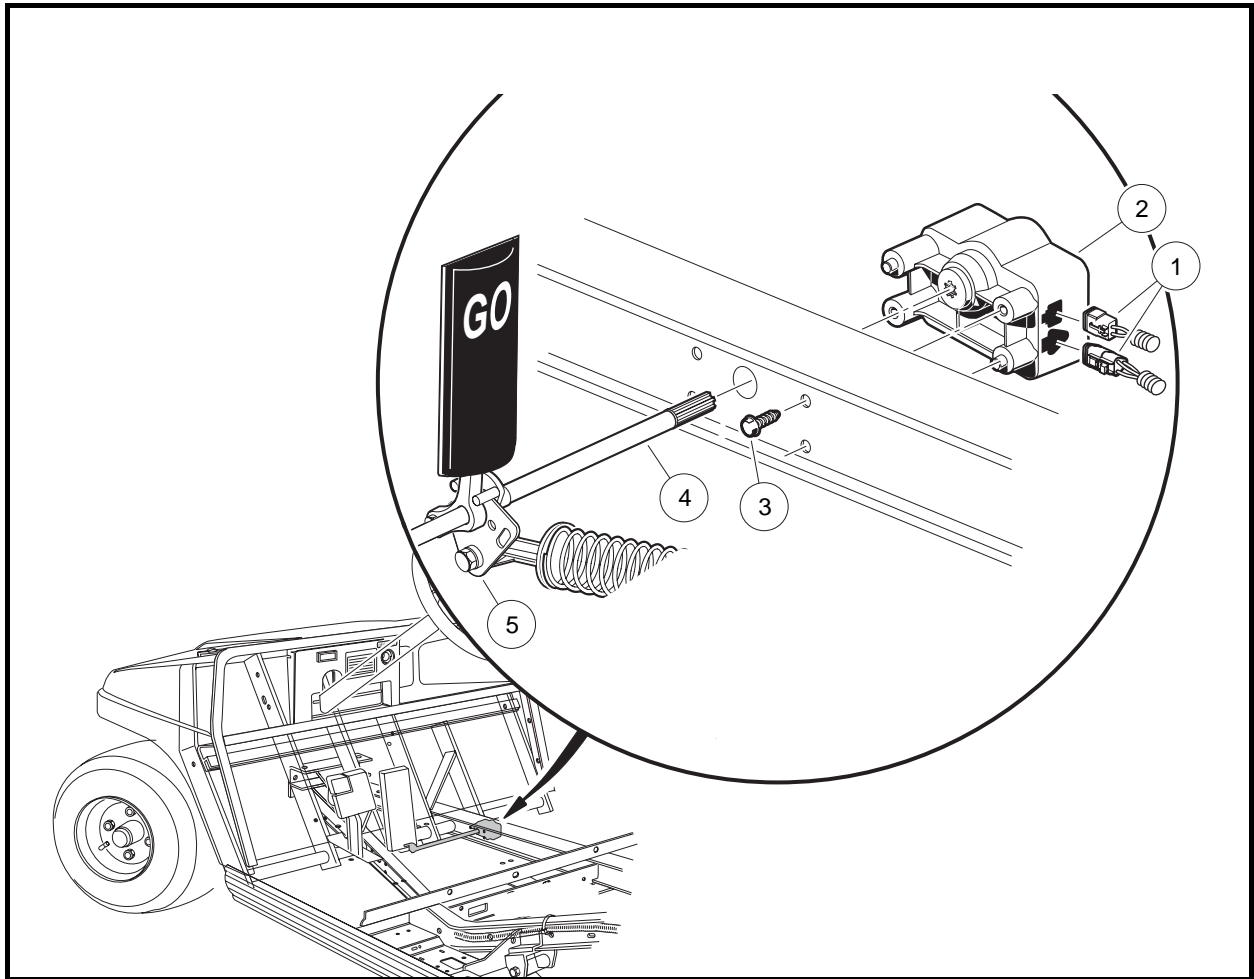

Figure 13-4 Motor Controller Output Regulator (MCOR) Mounting
3. Disconnect the two-pin and three-pin connectors (1) from the MCOR (2) **(Figure 13-4, Page 13-6).**
4. Remove the hex-head screws (3) connecting the MCOR to the frame I-beam.
6. Push the drive bar (4) into the hole in the I-beam to disengage it from the accelerator pivot rod (5).
1. Insert the splined end of the drive bar (4) through the hole in the passenger-side frame I-beam as shown (Figure 13-4, Page 13-6).
3. Place the MCOR (2) onto the splined end of the drive bar (Figure 13-4, Page 13-6). See following NOTE.
5. Secure the MCOR to the frame I-beam with two hex-head screws (3). Tighten screws to 23 in-lb (2.6 N·m).
6. Connect the two-pin and three-pin connectors (1) from the wire harness to the MCOR.